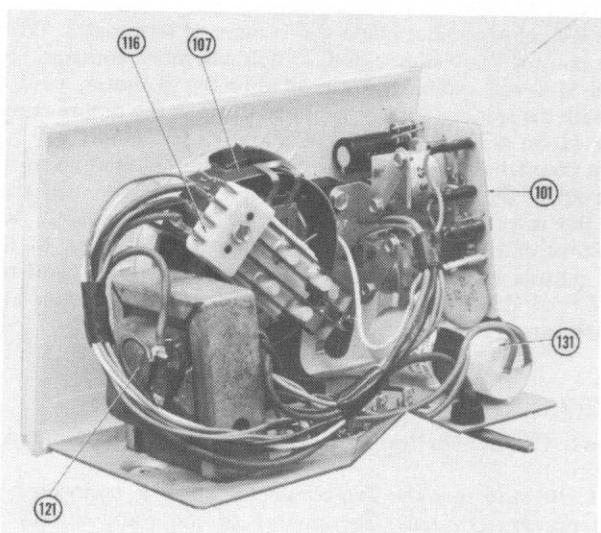

Fig. 75. Internal Components—Model C-225A Control Box.
3. Viewing the switch assembly (Item 116, Fig. 75) from the rear, switch contacts SI-1 and SI-4 should be closed and primary input contacts SI-2 and SI-3 should be open and have approximately $\frac{1}{16}$ inch clearance.
Rotor operates slowly or sluggishly.	Check size and length of five-conductor cable (see Fig. 4). Change capacitor (Item #131, Fig. 75).